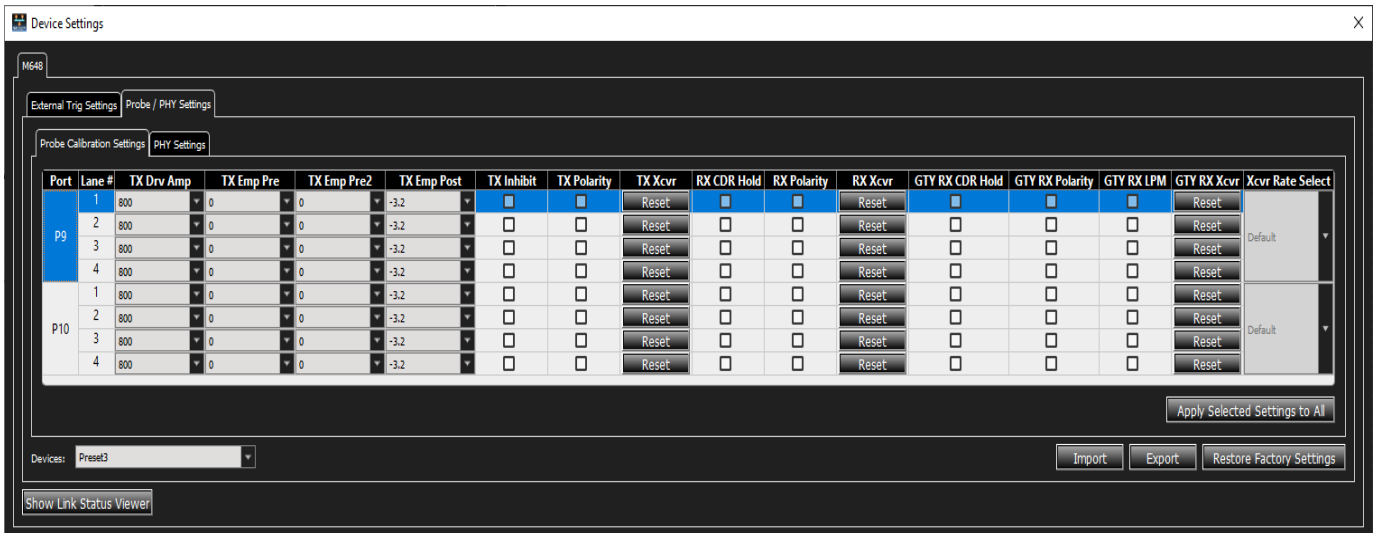
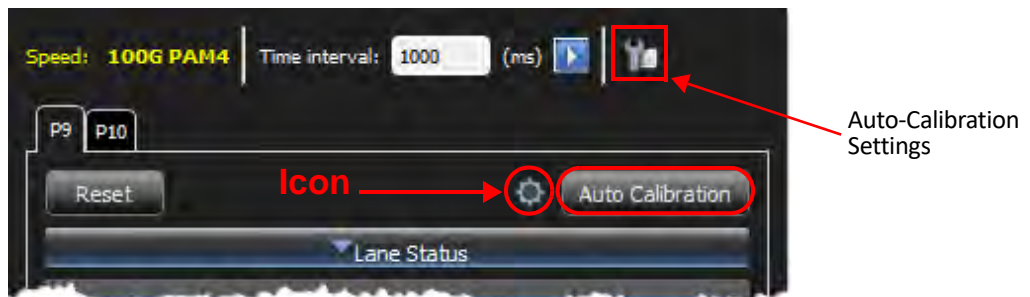

Figure 4.12: M648 Probe Calibration Settings
Figure 4.15: Link Status Window – Auto Calibration Option
- Probe/PHY settings (see Figure 4.12 and Figure 4.13)
This is found by clicking the **Show Link Status Viewer** button on the Device Settings window, shown in Figure 4.12. To use Auto Calibration, click **Auto Calibration** (Figure 4.15). The icon to the left of the Auto Calibration button changes to yellow when the first possible calibration value is found, then changes to green when the best calibration value is found.